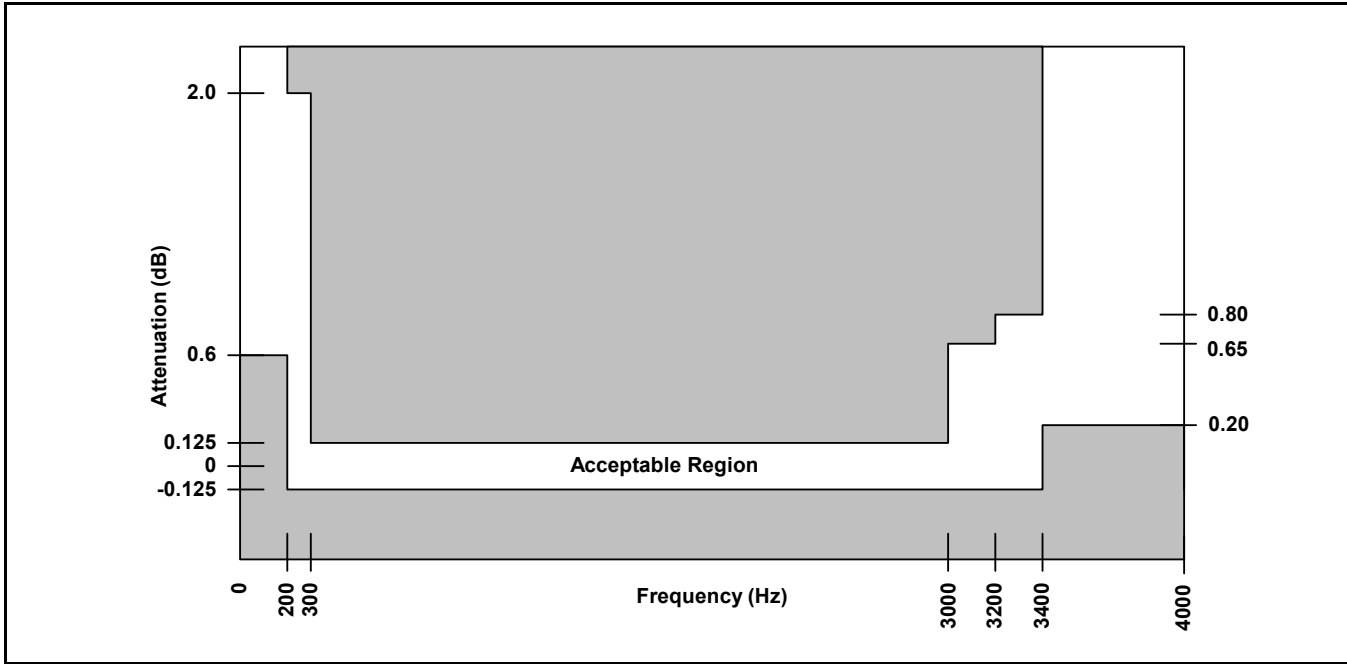
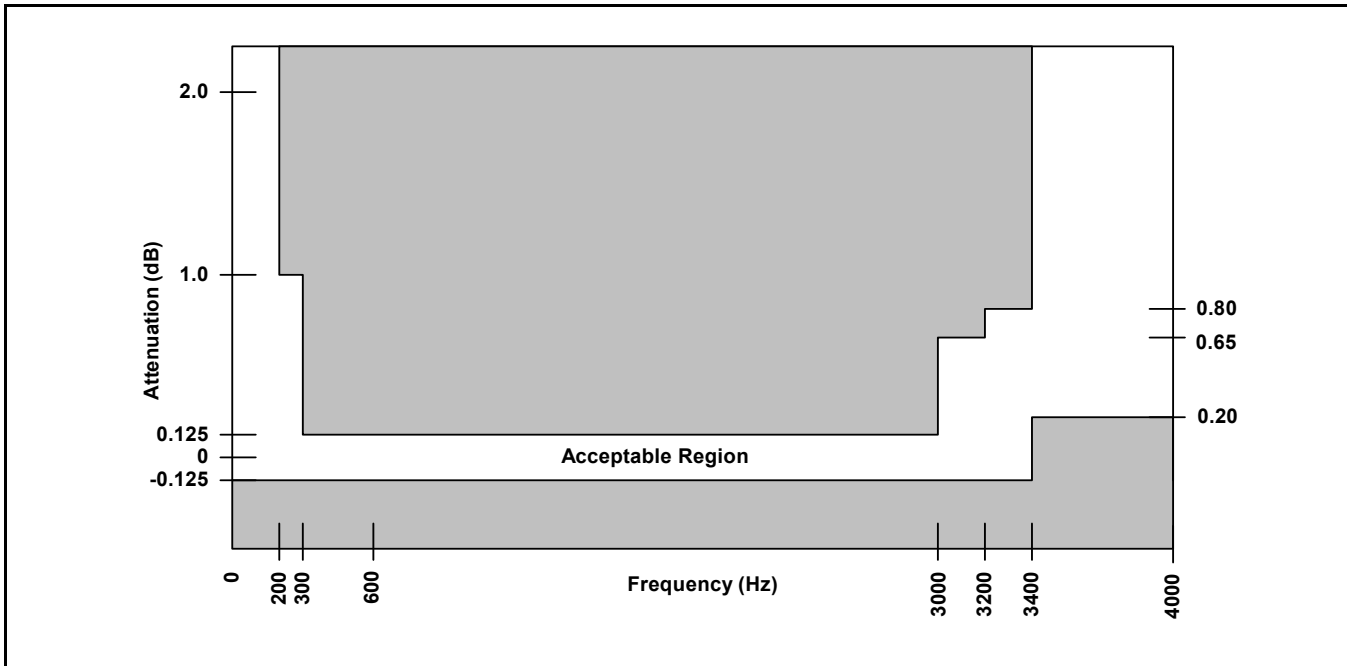

Figure 22 - Transmit Path Attenuation vs. Frequency
Figure 23 - Receive Path Attenuation vs. Frequency
3. See Figure 22 and Figure 23.
The signal attenuation in either path is nominally independent of the frequency. The deviations from nominal attenuation will stay within the limits shown in Figure 22 and Figure 23. The reference frequency is 1014 Hz and the signal level is -10 dBm0.